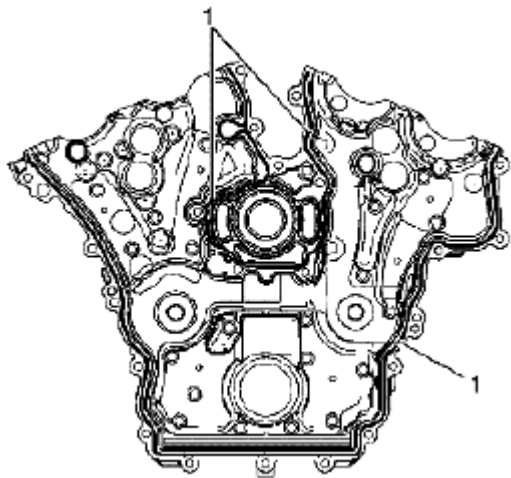

Fig. 123: Placing Bead Of RTV Sealant On Engine Front Cover
3. Place a 3 mm (0.118 in) bead of RTV sealant, GM P/N 12378521 (Canadian P/N 88901148) or equivalent, on the engine front cover as shown in **Fig. 123** (1).